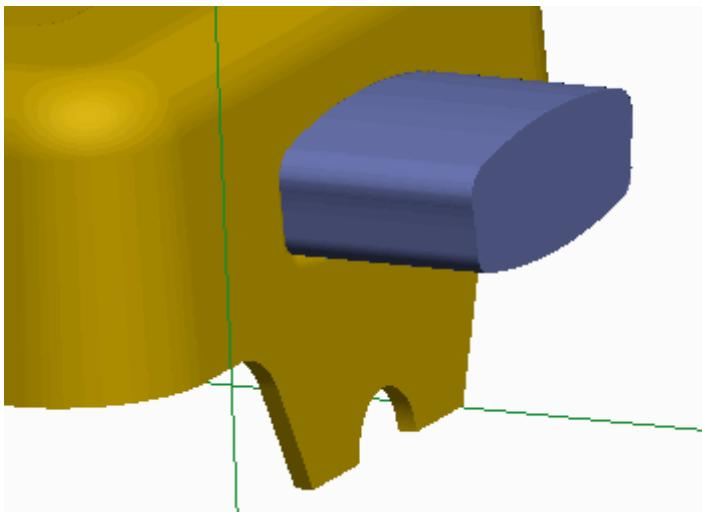

Figure 1 – Undesired Slider Result
- Shape – When calculated undercut boundaries are used, the resulting slider mold volume takes on the shape of the undercut geometry. If the shape is not desired for manufacturing, or it cannot be manufactured, a slider mold volume can be sketched to account for the undercut geometry. In Figure 1, the shape created by calculating undercut boundaries is not as conducive to manufacturing as the sketched slider mold volume in Figure 2.